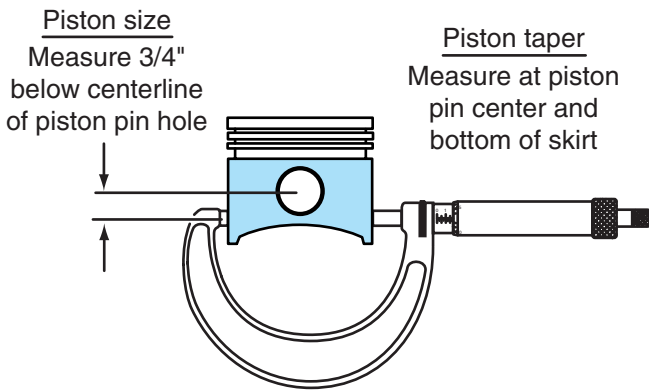

FIGURE 13.11 Measuring maximum piston skirt diameter.
- First, most piston skirts are tapered (**Figure 13.10a**). They are larger in diameter at the bottom because the bottom of the piston runs cooler than the top. At operating temperature, the piston-to-cylinder wall clearance is correct. Many newer pistons are barrel-shaped (**Figure 13.10b**), meaning they are smaller at both the top and bottom. The place to measure a piston varies among manufacturers, so check the service information. **Figure 13.11** shows where most manufacturers recommend that a piston skirt be measured.